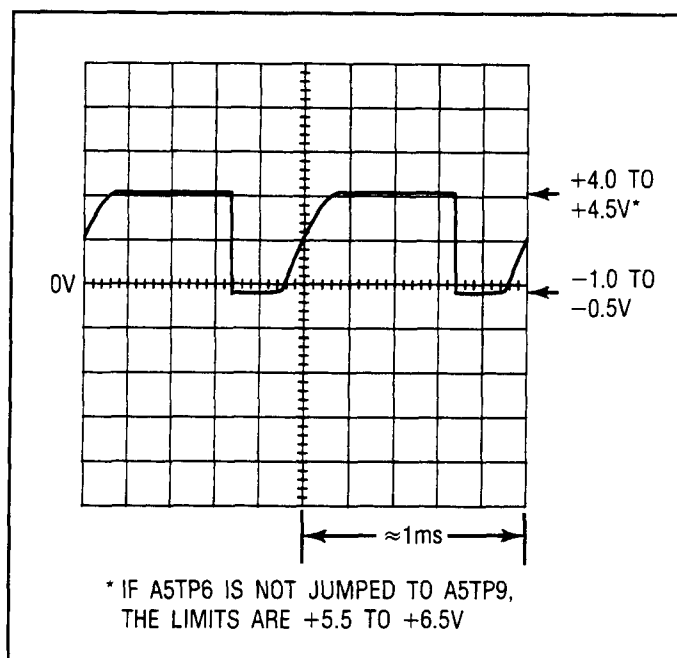

Figure 8C-3. Oscilloscope Waveform at A5TP3,  $\sqrt{2}$  Step 3
3. Connect the oscilloscope to A5TP3 (S/H). The waveform should be as shown in Figure 8C-3. If faulty, see Service Sheet 9 and check Sample and Hold 1.